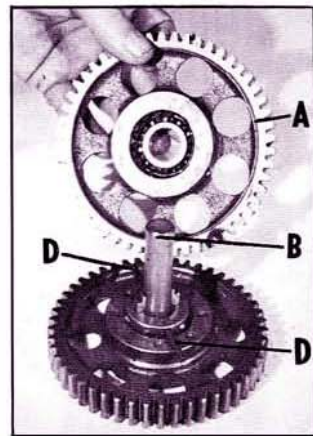
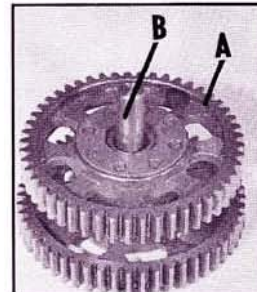

Fig. 22
Fig. 23
4. Assemble gear (A) on shaft (B) as shown in Fig. 22 and Fig. 23. Roll pins (D) Fig. 22, will keep assembly apart.